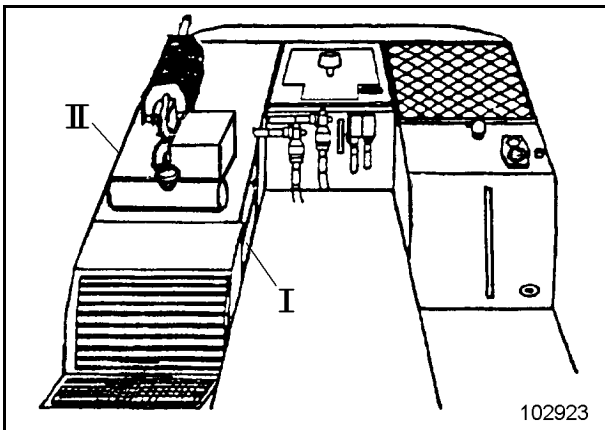

Fig. 3-33:
- Open hatch I (Fig. 3-33:) to gain access to the filters.